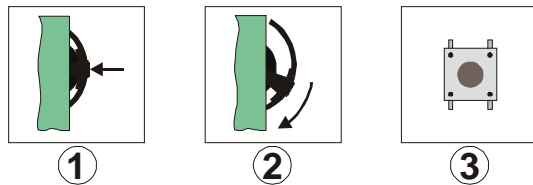

Fig. 5: Entering the System Download Mode
- (2) During normal operating conditions: If the virtual machine is restarted by the method `switchBank()` of the built-in class `jcontrol.system.Management` and the new Flash bank contains no valid application software.
- (3) The system download mode may be enforced by pushing the multifunction switch down while resetting the device as shown in *Fig. 5*.
- (4) The mode may also be started by software calling the `run()`-Method of an instance of the built-in class `jcontrol.system.Download`.